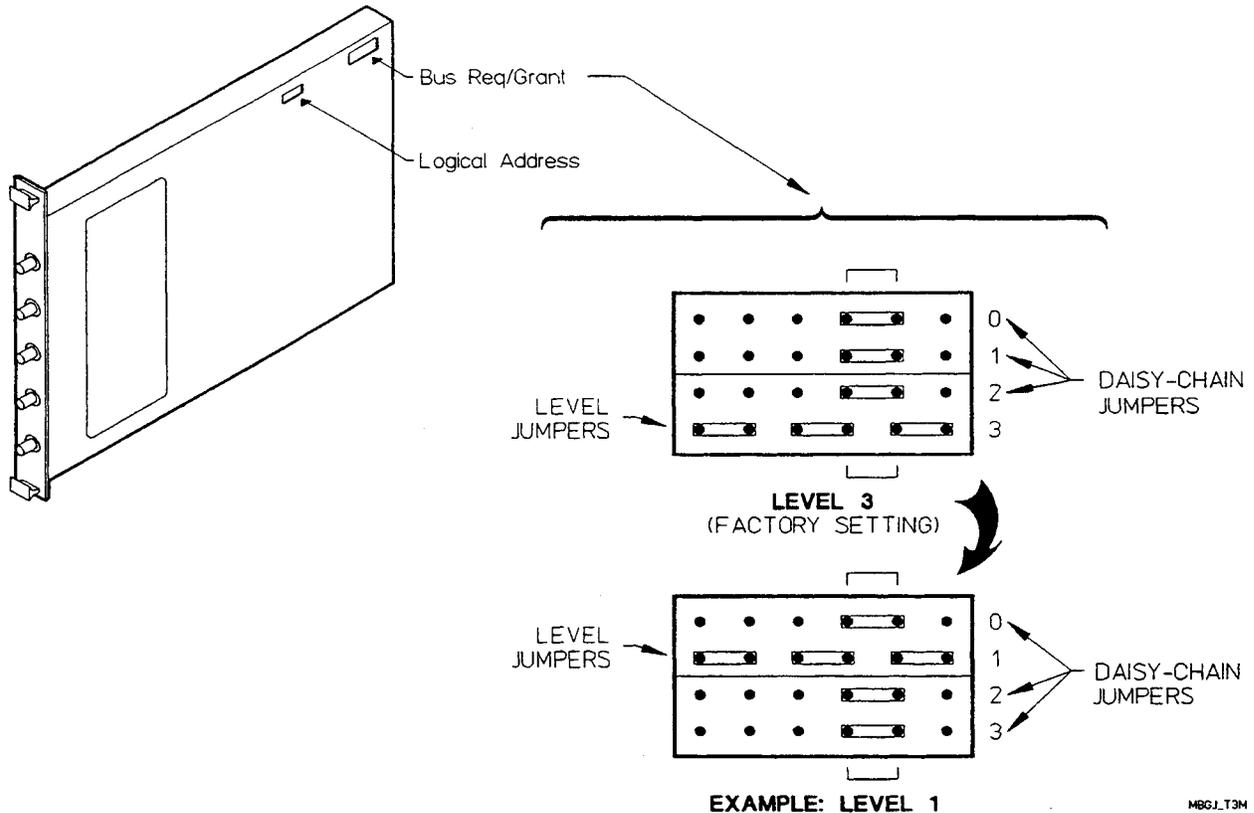

Figure 2-3. Bus Grant Jumper Location and Selection
1. Locate the bus grant/request jumpers located on the top-right side of the counter module adjacent to the P1 connector. See *Figure 2-3* for the jumper location and level selection.
2. Move the jumpers to the new bus grant/request position. See *Figure 2-3* for the individual jumper priority positions. The top right side of the figure shows the correct factory setting setting (priority level 3). The bottom right side shows how to change the jumpers for priority level 1.